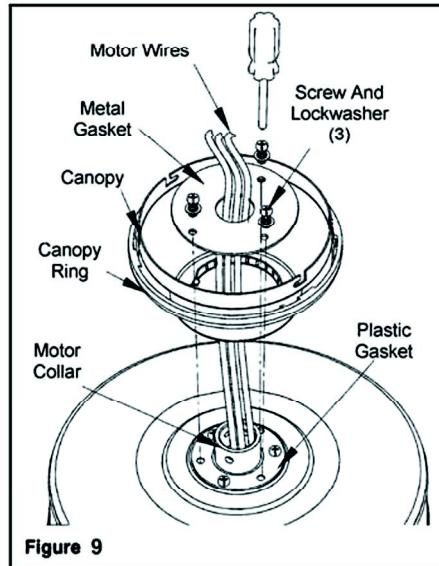

Figure 9
4. Route the wires exiting the top of the fan motor through the plastic gasket, canopy ring, canopy and the metal gasket, place the plastic gasket over the remaining three screws, place the canopy ring, canopy and the metal gasket over the motor collar at the top of the fan motor (Figure 9).